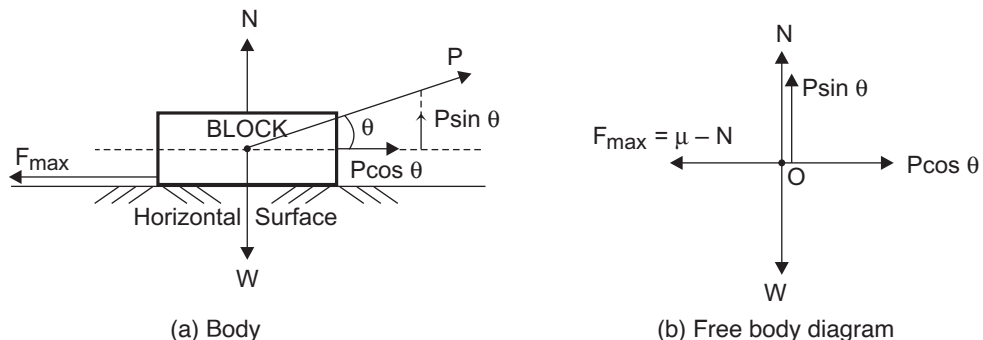

Fig. 3.6: Equilibrium of body on horizontal plane
3.2.2 Equilibrium of a body on a horizontal plane with inclined external force (Fig. 3.6)
For such case, inclined force was resolved (parallel to the plane and perpendicular to the plane) as explained in unit 1 of this book. Now equilibrium equations were applied on the body as horizontally (parallel to plane) & vertically (normal to plane); as shown in fig. 3.6.